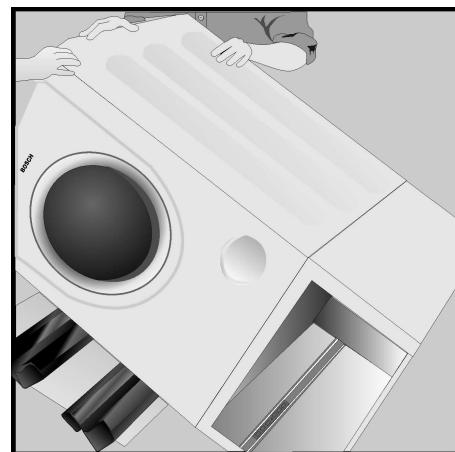

Figure 13
6. Lift the appliance and pedestal assembly back to an upright position (use of an assistant is required) (see Figure 13).